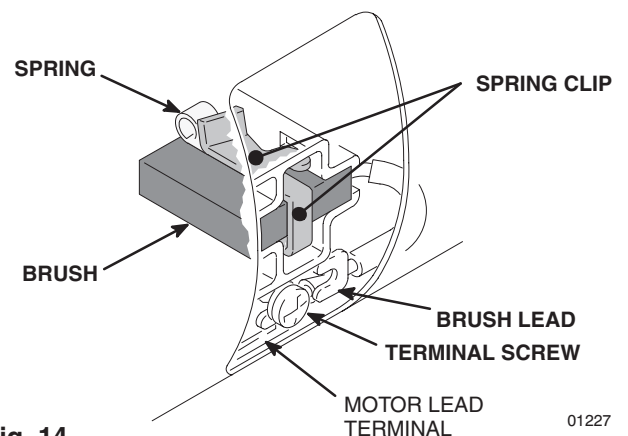

Fig. 14 01227
4. Loosen the brush lead terminal screw. Pull the brush lead away, leaving the motor lead terminal in place. Remove brush and spring. See Fig. 14.
7. Slide the terminal under the terminal screw washer and tighten the screw. Be sure the motor lead is still connected at the screw. See Fig. 14.